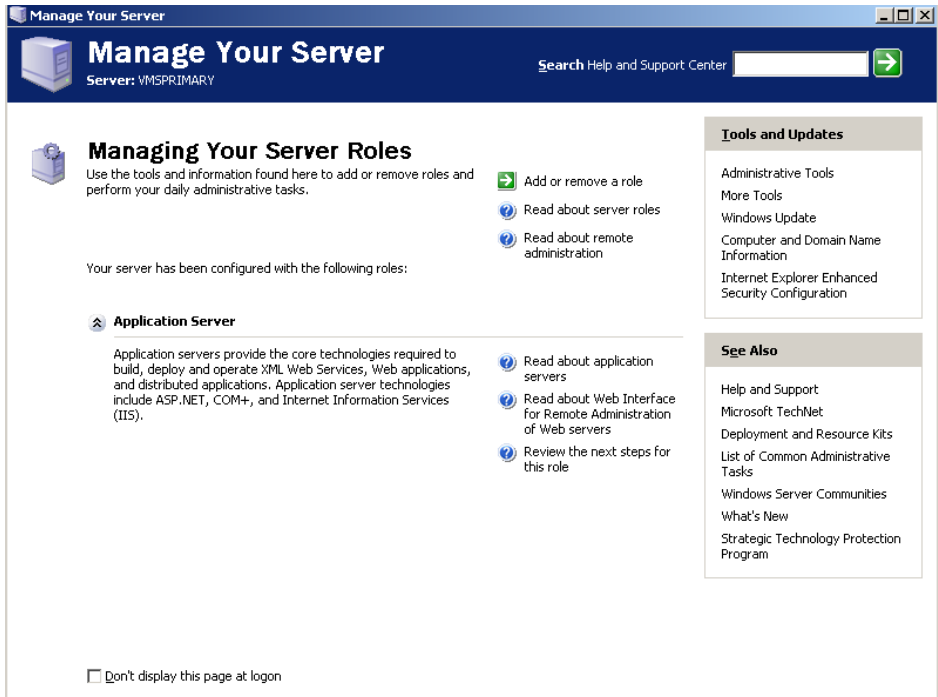

Figure D-42 Manage your server dialog
1. From the **Manage your server** dialog shown in figure D-42, click the **Add or remove a role** option.